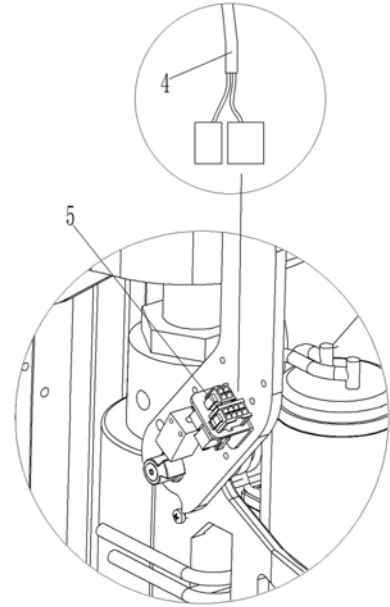

Fig. 6: Connect the plug
- Fix the tiller on the truck frame with four screws(2), Fig.6.
- Move out the plug cover, connect the electrical control wiring harness plug (4)and tiller seat(5), Fig.6.